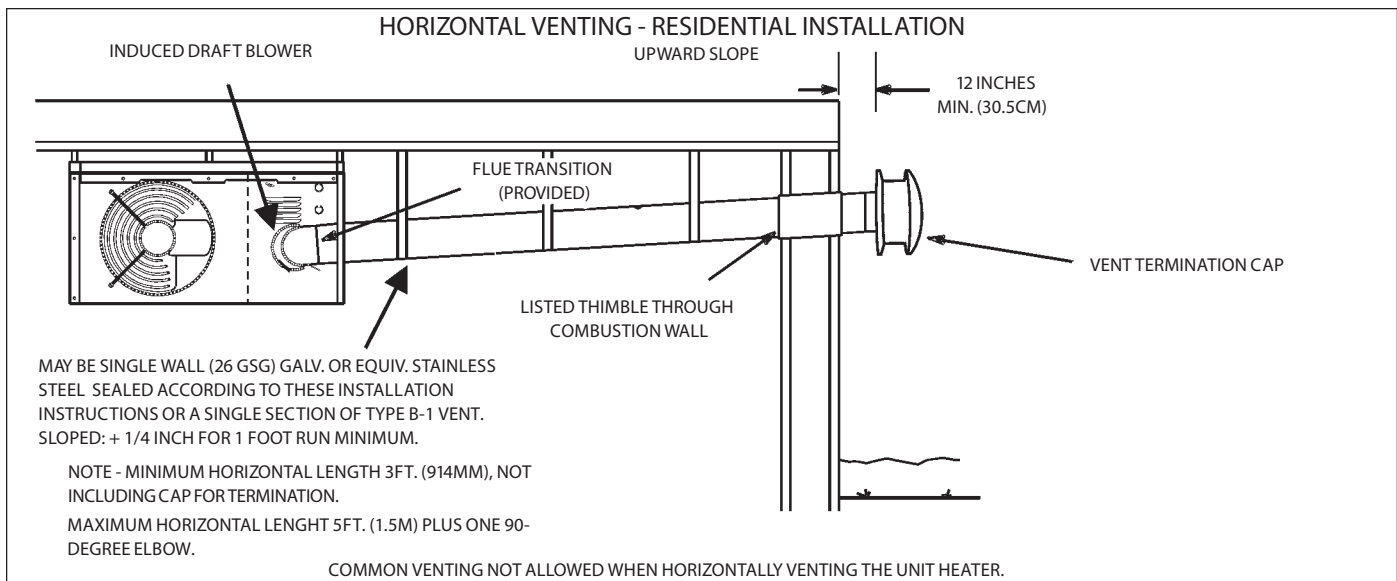

FIGURE 6
1. For horizontal residential installations these units are certified as Category I appliances. The vent may be single wall material minimum 25 GSG (0.46mm) galvanized steel or equivalent grade stainless steel. Venting A - General Recommendations and Requirements and C - Horizontal Venting General and E - Horizontal Venting - Residential. Refer to figure 6 .